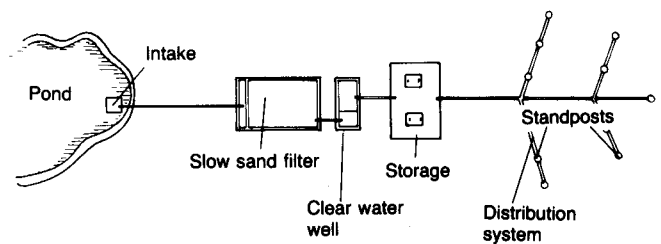

Figure 1. Location Map
1. A map of the site where the filter will be constructed similar to Figure 1. The map should include the location of the water source, other parts of the treatment system, and the water distribution system. It should indicate important landmarks, elevations and any other information relevant to the project.